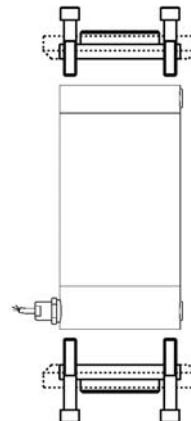

Fig.6
- mount flange covers (Fig. 6)